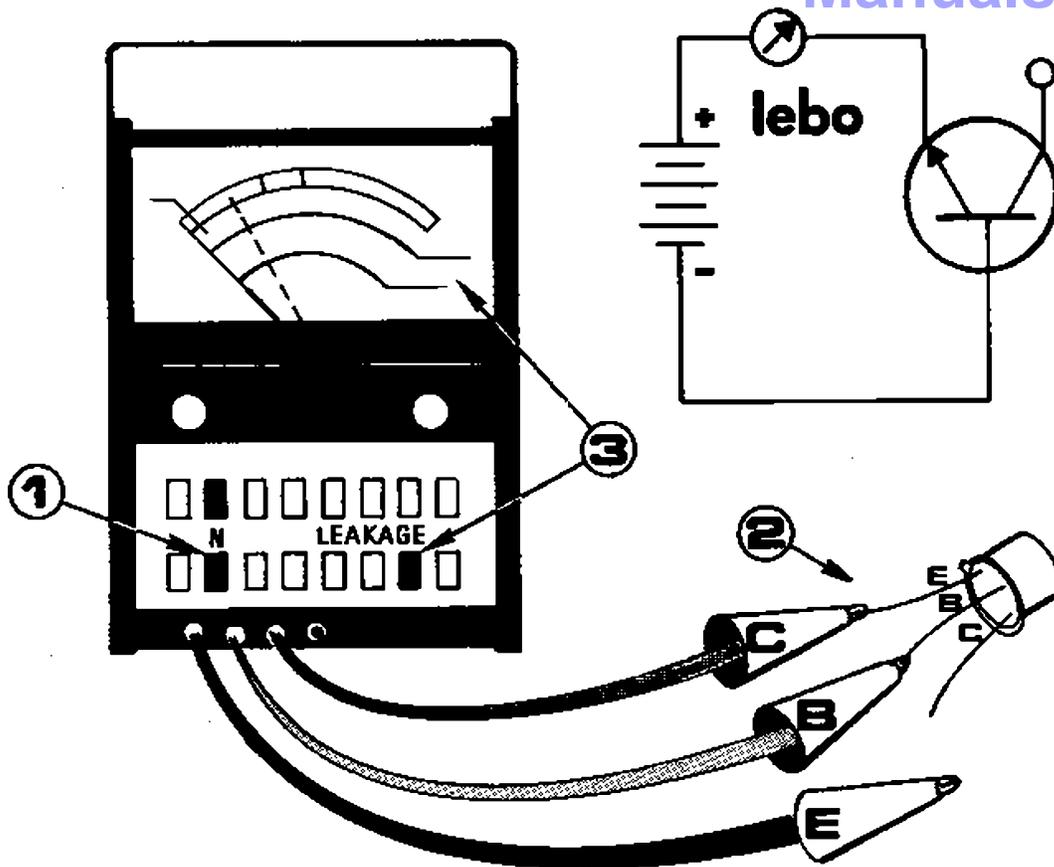

Fig. 8. IEBO Leakage Test
2. Connect the B lead of the TF166 to the base of the transistor, the C lead to the emitter of the transistor, and leave the E lead of the TF166 and collector of the transistor disconnected, as shown in Fig. 8.